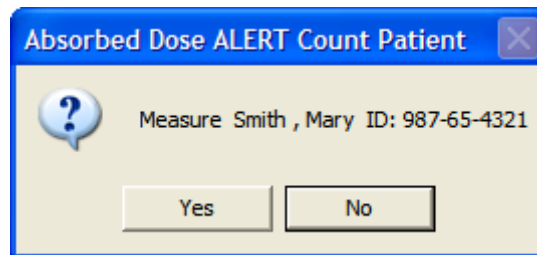

Figure 9-22
- Click the **Count** button to begin counting the selected patient. Figure 9-22 will appear confirming the selected patient. To cancel the test or if the incorrect patient was selected, click the **No** button, otherwise click **Yes** to continue.